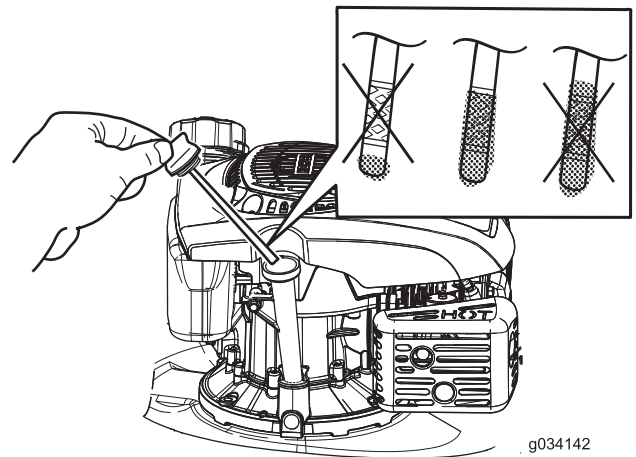

**Figure 21**
2. Tip the machine onto its side, with the dipstick down, to drain the used oil out through the oil-fill tube (Figure 21).